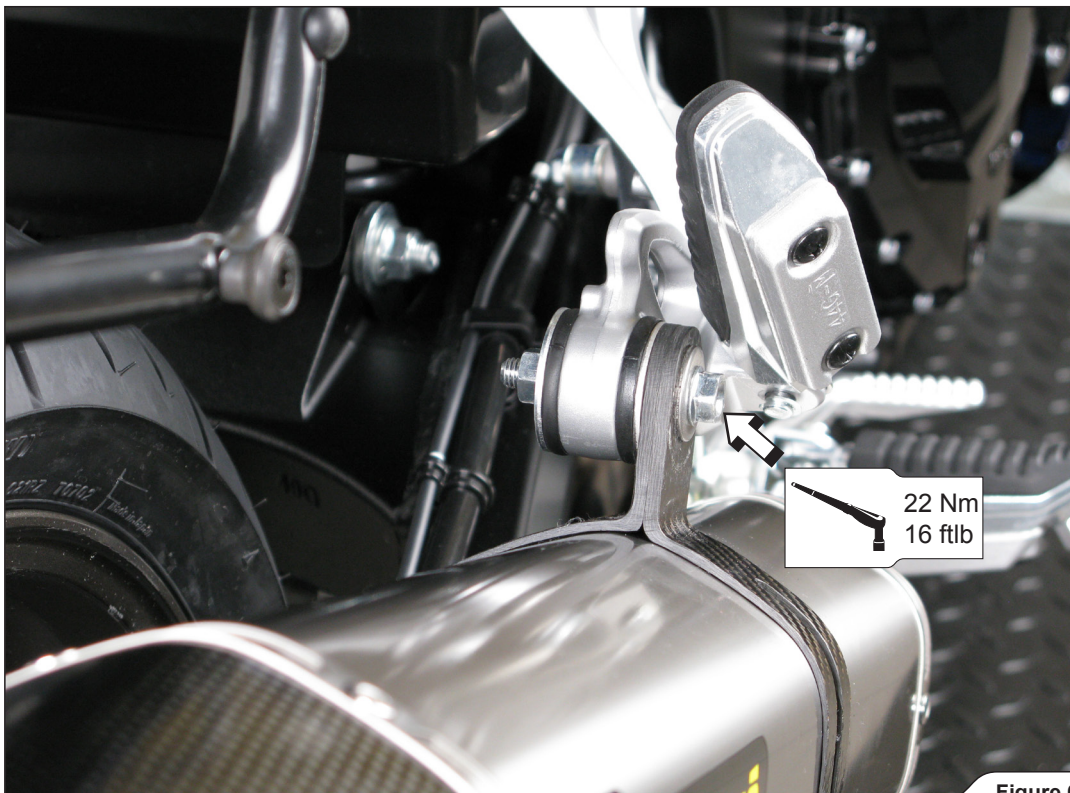

Figure 6
4. Position the muffler correctly and slide it onto the outlet side of stock link pipe. Align the muffler in respect to the motorcycle and tighten the muffler clamp (using Akrapovič bolt, washers and nut) and metal clamp to a specified torque (Figure 6, 7).